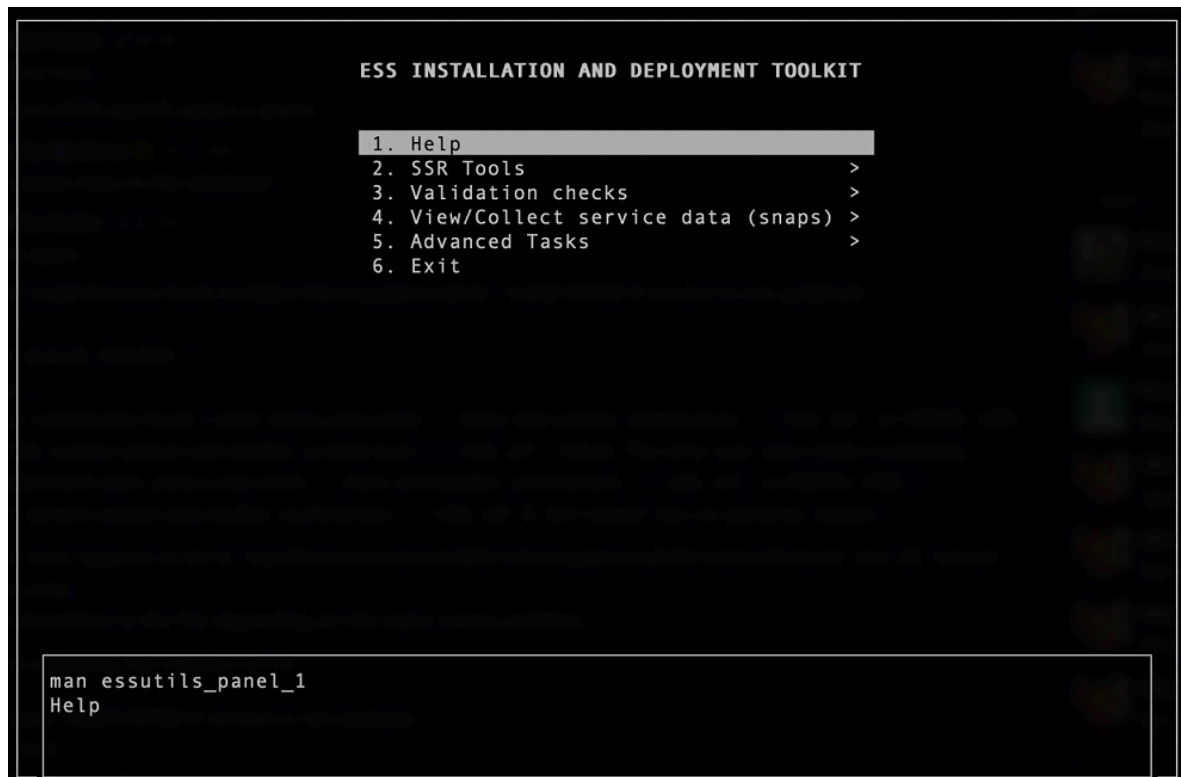

Figure 30. **essutils** tool
- i. Select the SSR tools menu as shown in Figure 30 on page 55.